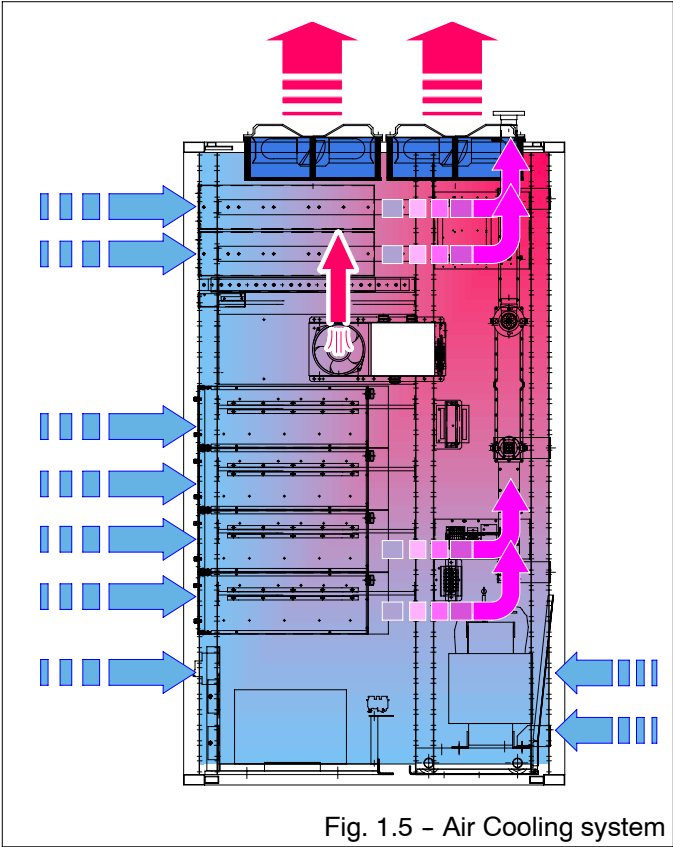

Fig. 1.5 - Air Cooling system
- Fig. 1.5 block diagram of transmitter air cooling system.